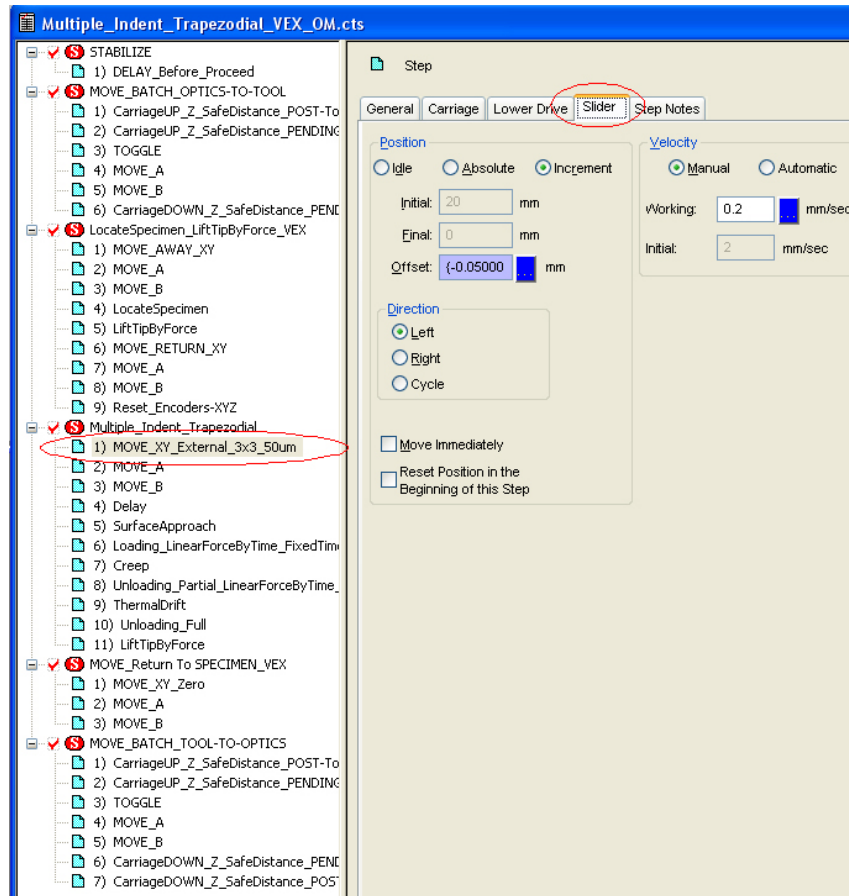

Figure 17: Location of the Slider (x) movement for the grid spacing.
- a. Navigate to the 4th Sequence and the 1st step “Move_xy_External_3x3_50um”, then select the “slider” tab as shown in Figure 17.